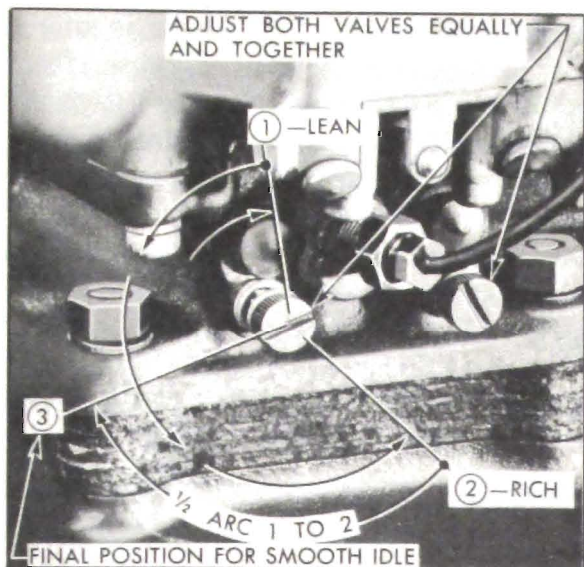

Figure 3-19—Adjustment for Smooth Idle
4. Turn both needle valves "IN" one-half the distance between the first and second positions, being careful to turn both valves an equal amount. See figures 3-19. This should give the smoothest idling point. NOTE: *As the needle valves are changed, the throttle stop screw also must be changed to maintain engine idling speed at 450 RPM (8 MPH on level road in third speed).*